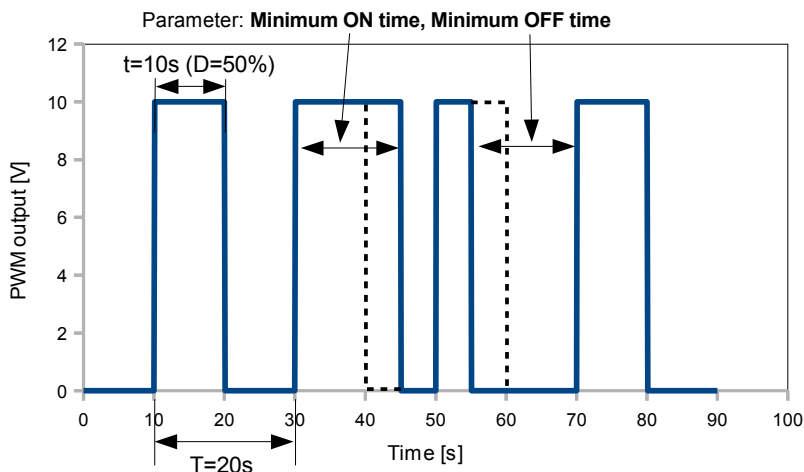

Fig. 7.78. Sample of output signal of SSR relay in PWM mode
- **Name** – each outputs already has a name given by the device and user cannot change it - see Fig. 7.78,